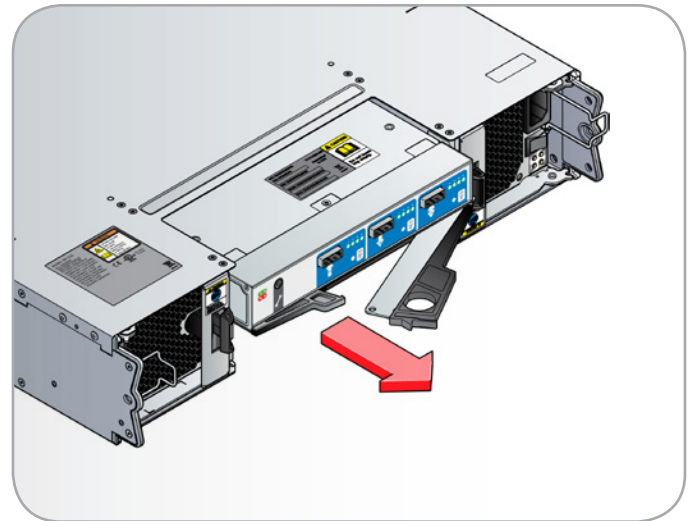

Fig. 45 - Removing the Disk I/O Module
3. Using the latch as a handle, withdraw the Disk I/O Module (Fig. 45).